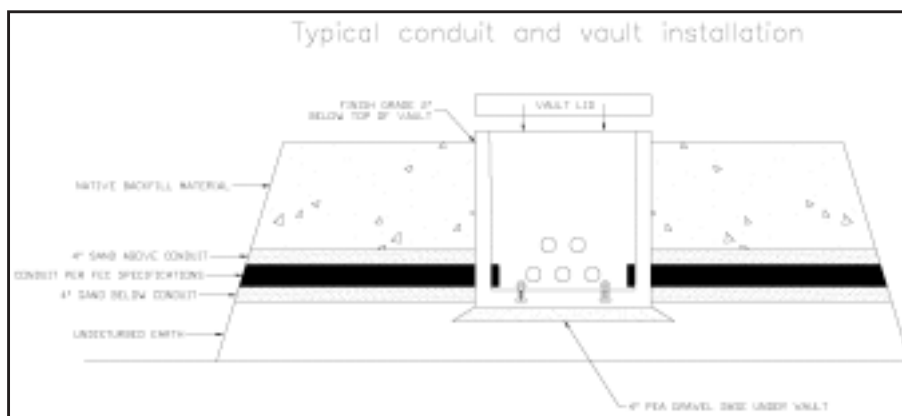

FIGURE 1-19. Typical conduit and vault installation.
- See Figure 1-19 for a typical conduit and vault installation.